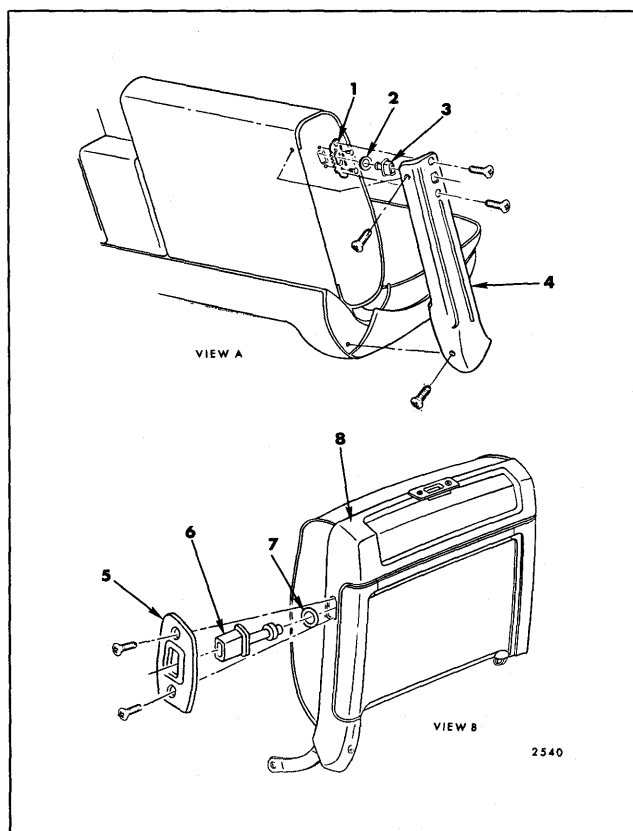

Fig. 15-22—Seat Back Lock Removal - "C & E"
2. On style with full seat back panel, remove seat back lock push button escutcheon and remove lock push button and ferrule; then, remove seat back panel (See View "B" in Fig. 15-22). On styles with seat side panel, remove seat side panel; then, remove lock push button and ferrule (See View "A" in Fig. 15-22).